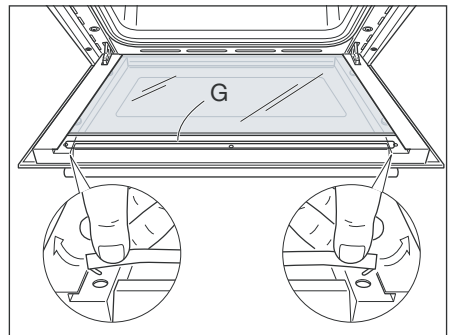

Fig. 25d
- Remove the seal "G" by unhooking the two fixing hooks (Fig. 25d).